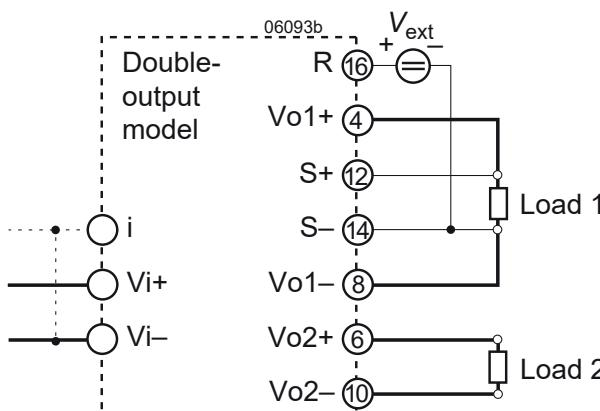

Fig. 20
a) Adjustment by means of an external control voltage V_{ext} between R (pin 16) and S- (pin 14); see fig. 20.